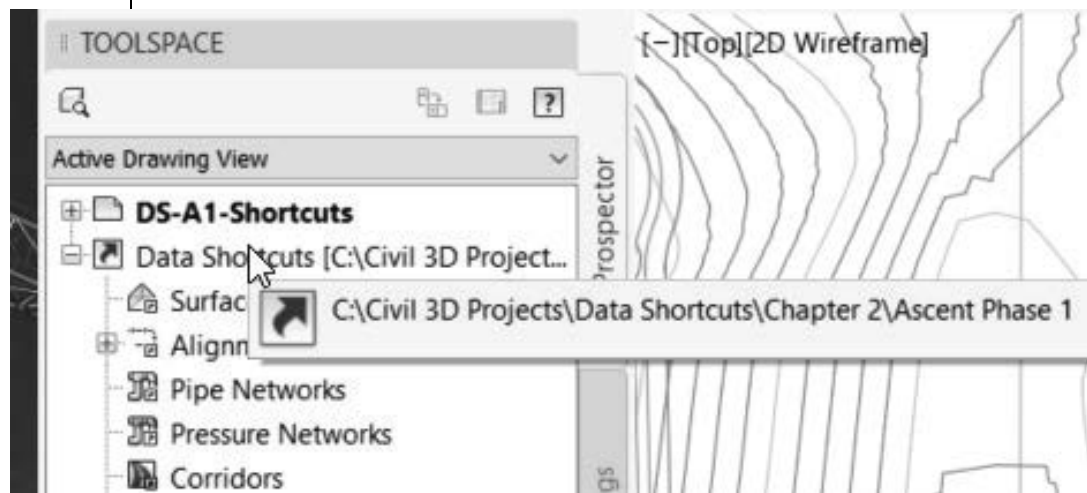

Figure 2–14
2. In the Toolspace, *Prospector* tab, verify that the Data Shortcuts points to the correct folder, as shown in Figure 2–14. By hovering over the Data Shortcuts heading, the full path gets revealed in the tooltip. If it is not set to *Ascent Phase 1*, then repeat the steps from the previous exercise.